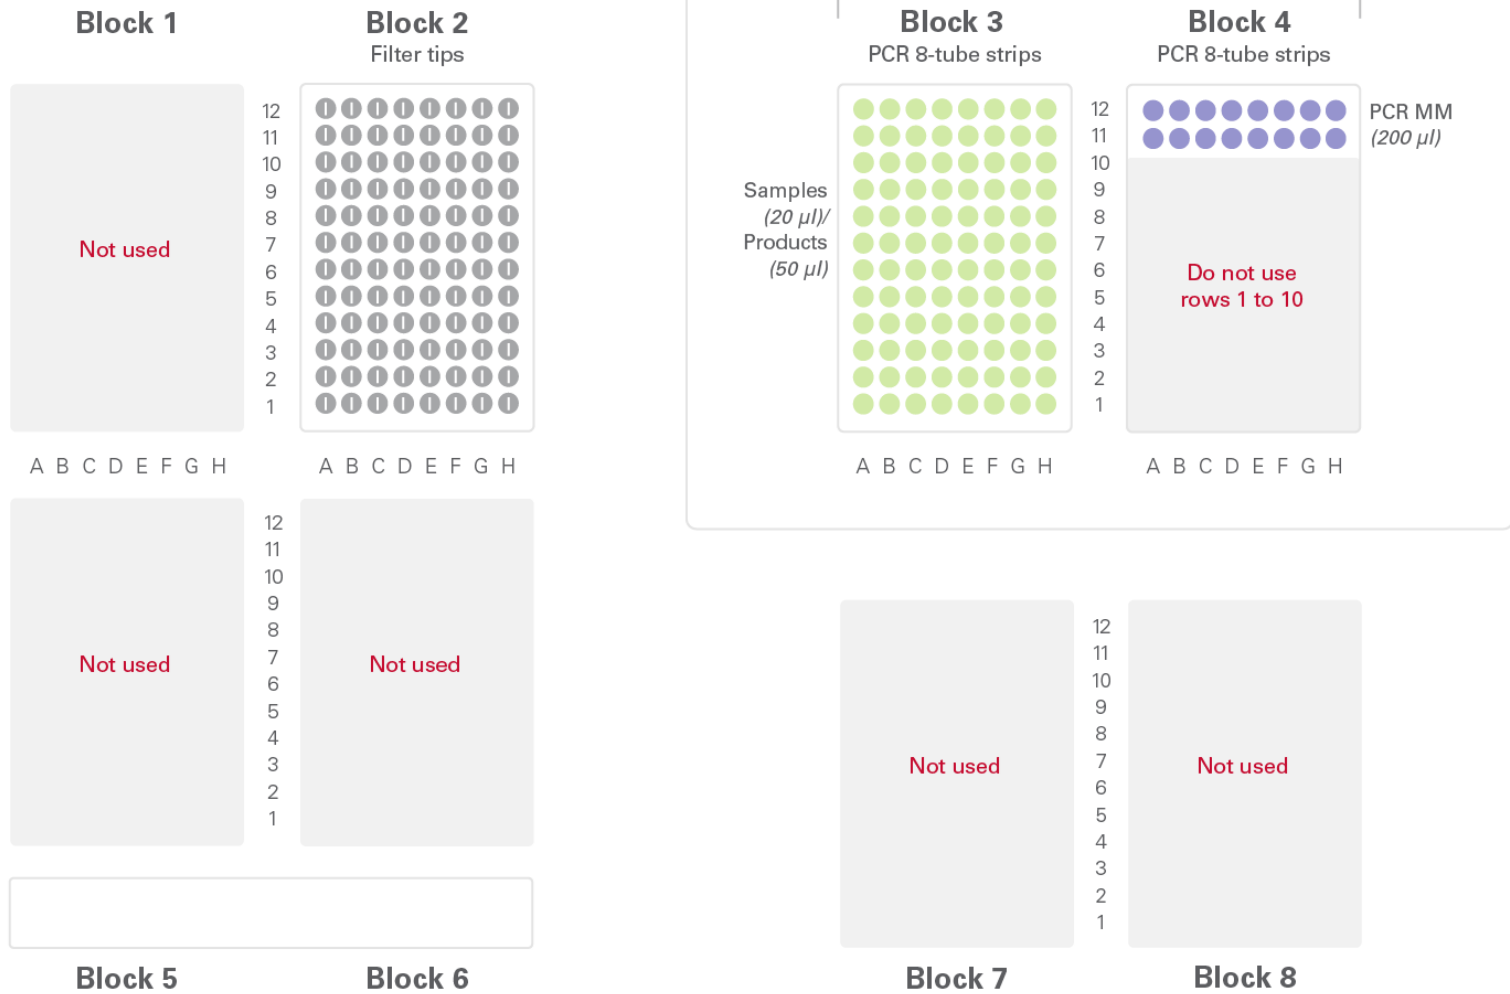
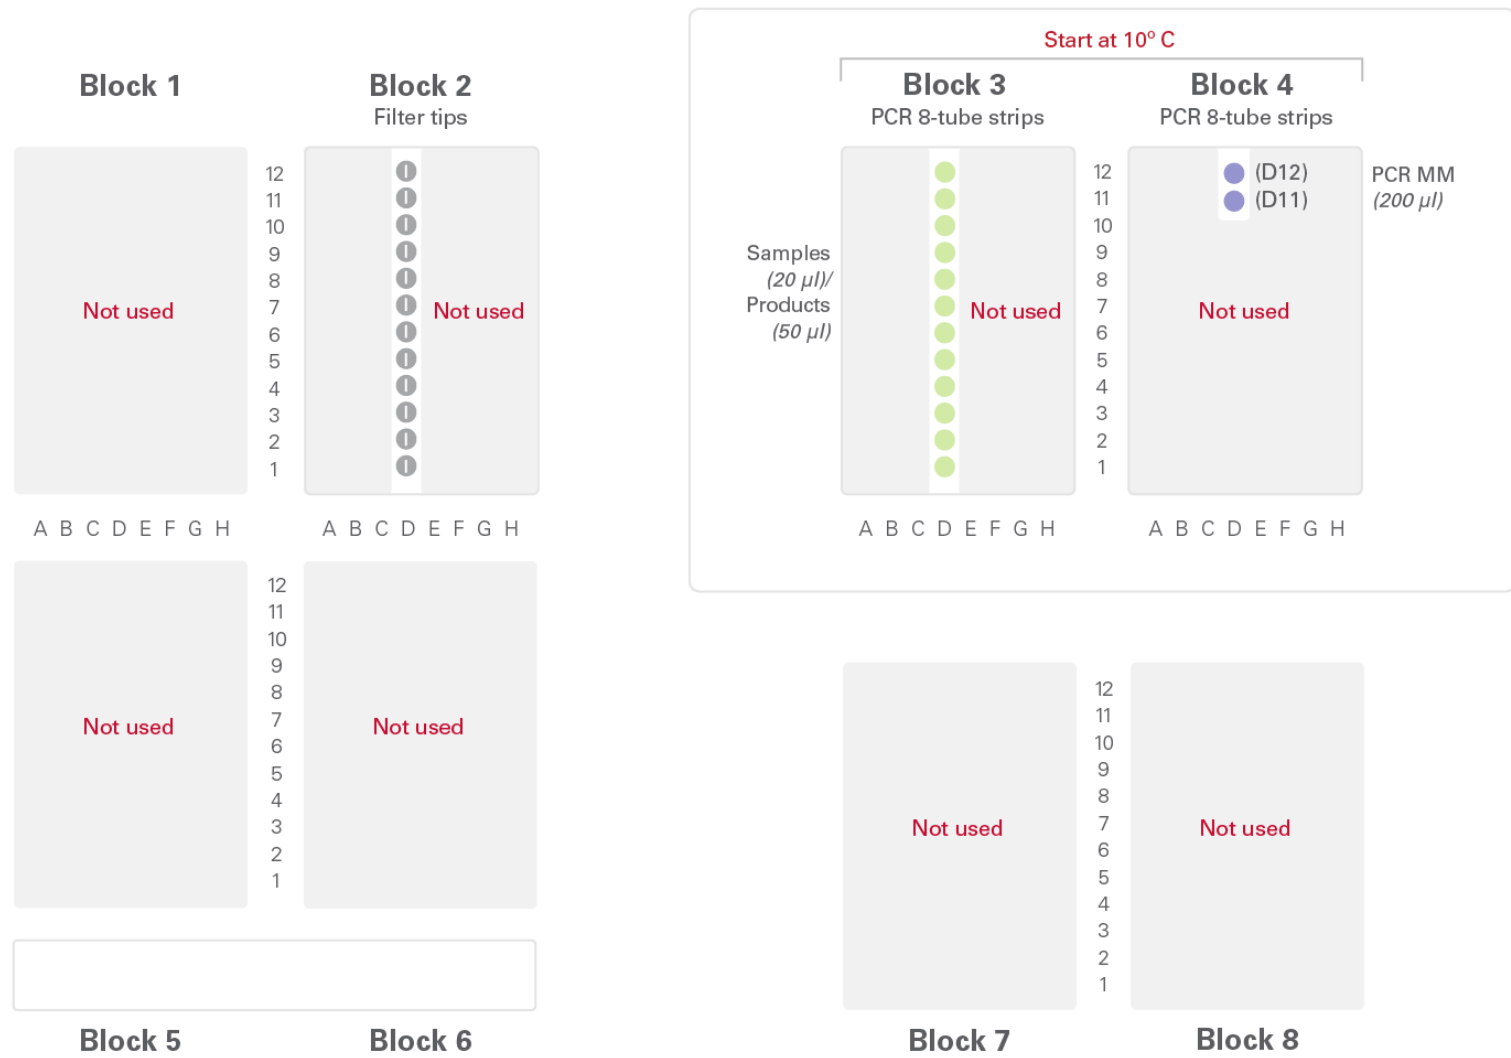

Figure 8. Deck layout for PCR setup from 96 samples. For this protocol, use script `SSv4_3_PCR_96_v1-1.scb`. Run time is 25 minutes.
Figure 9. Deck layout for PCR setup from 12 samples. For this protocol, use script `SSv4_3_PCR_96_v1-1.scb`. Run time is 25 minutes.
4. Load consumables onto the Apollo work surface according to the layout in Figure 8 (96 samples) or Figure 9 (12 samples). See Appendix A for deck setup using other sample numbers. First, load the consumables that do not initially hold reagents. Next, on the benchtop, aliquot reagents and samples into the indicated consumables according to the table below, and then load them onto the system just before the run.